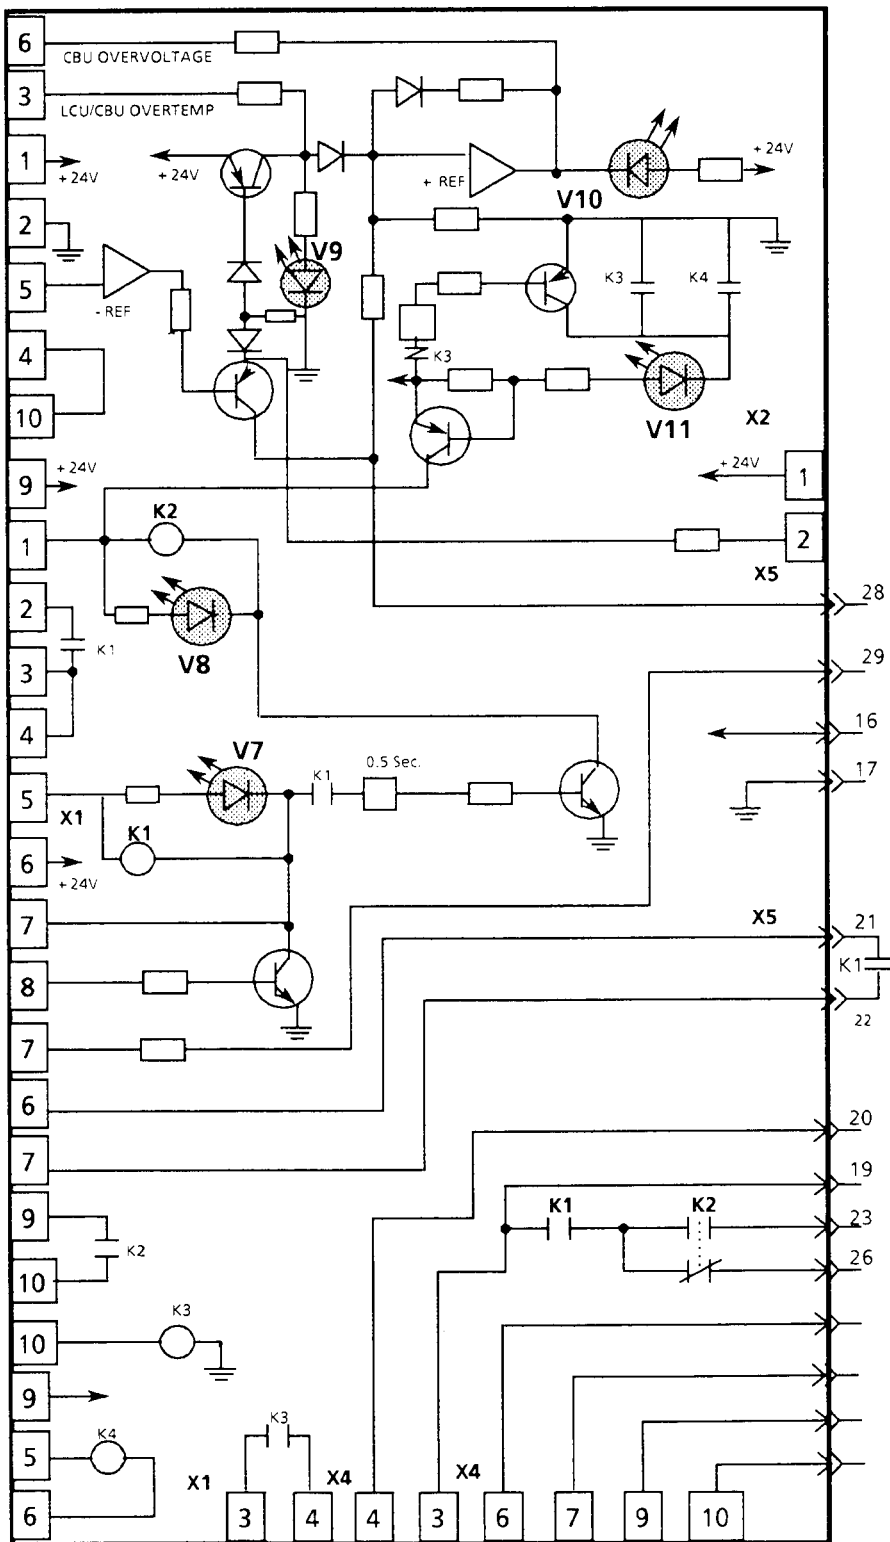

Figure 3-31. A1 Supply Unit Contactor Control Card (LSU- A1)
Card (Figure 3-31) which is used on all Series A and GTO Series B drives, monitors the condition of the Line Supply Unit and controls the operation of the main contactor and the charging capacitor. The A1 card operates on 24V D.C. current. A 220 volt auxiliary output is available on the card. Five (5) LED's indicate the operating state or abnormal conditions in the LSU unit.